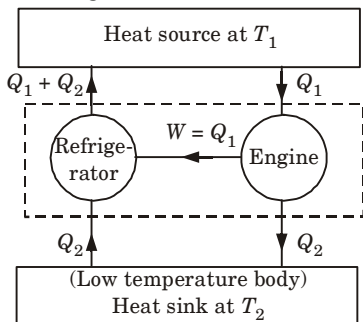

Fig. 7.
4. Combining the engine the refrigerator into one system working between same temperature limits, we observe that the sole effect of combined system is to transfer Q_2 from low temperature heat reservoir T_2 to high temperature heat reservoir without any work input thus violating the Clausius statement Fig. 7.